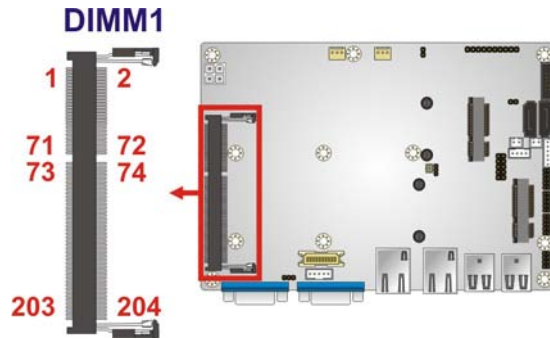

Figure 4-16: SO-DIMM Connector Location
- CN Location: See **Figure 4-16**